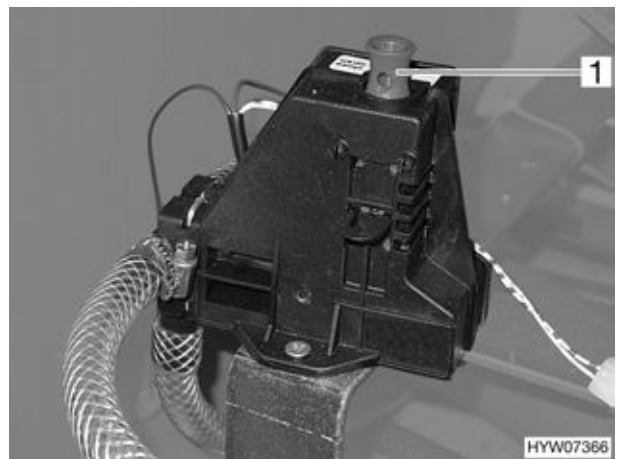

Fig. 137 Safety/drainage valve of the boiler
The boiler is equipped with a safety/drainage valve (Fig. 137). The safety/drainage valve prevents water in the boiler from freezing, when there is frost and the heater is not switched on. For position see the chapter 10, "Position of the Drain Cocks".
- Close the safety/drainage valve. Pull the pull switch (Fig. 137,1) up.
- Open the safety/drainage valve (Fig. 137). Push the pull switch (Fig. 137,1) down. The boiler is drained to the outside by the safety/drainage valve.